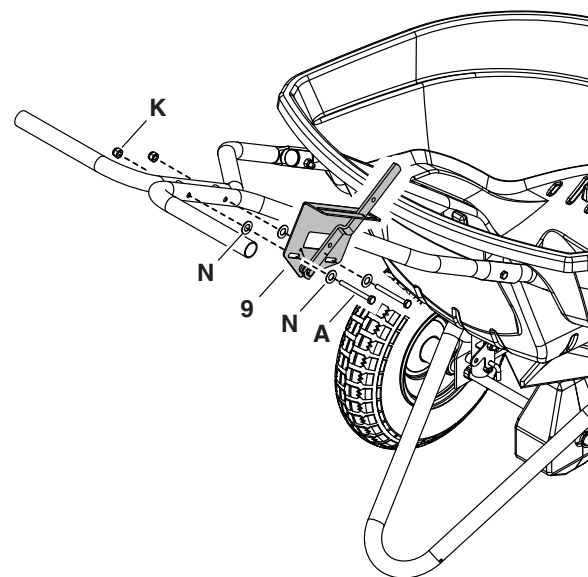

Figure 12
STEP 12: (SEE FIGURE 12)
- Attach the flow control bracket (9) to the handle tubes using two 1/4" x 2-3/4" hex bolts (A), four 1/4" washers (N) and two 1/4" nylock nuts (K). **Do not tighten yet.**